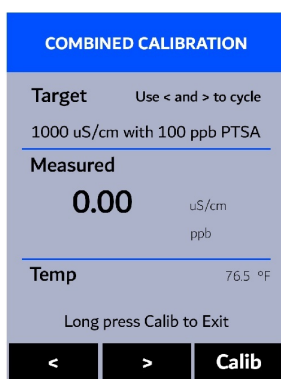

Figure 13.
3. Press **C-Cal** (**>**) to launch the **COMBINED CALIBRATION** screen (Figure 13).